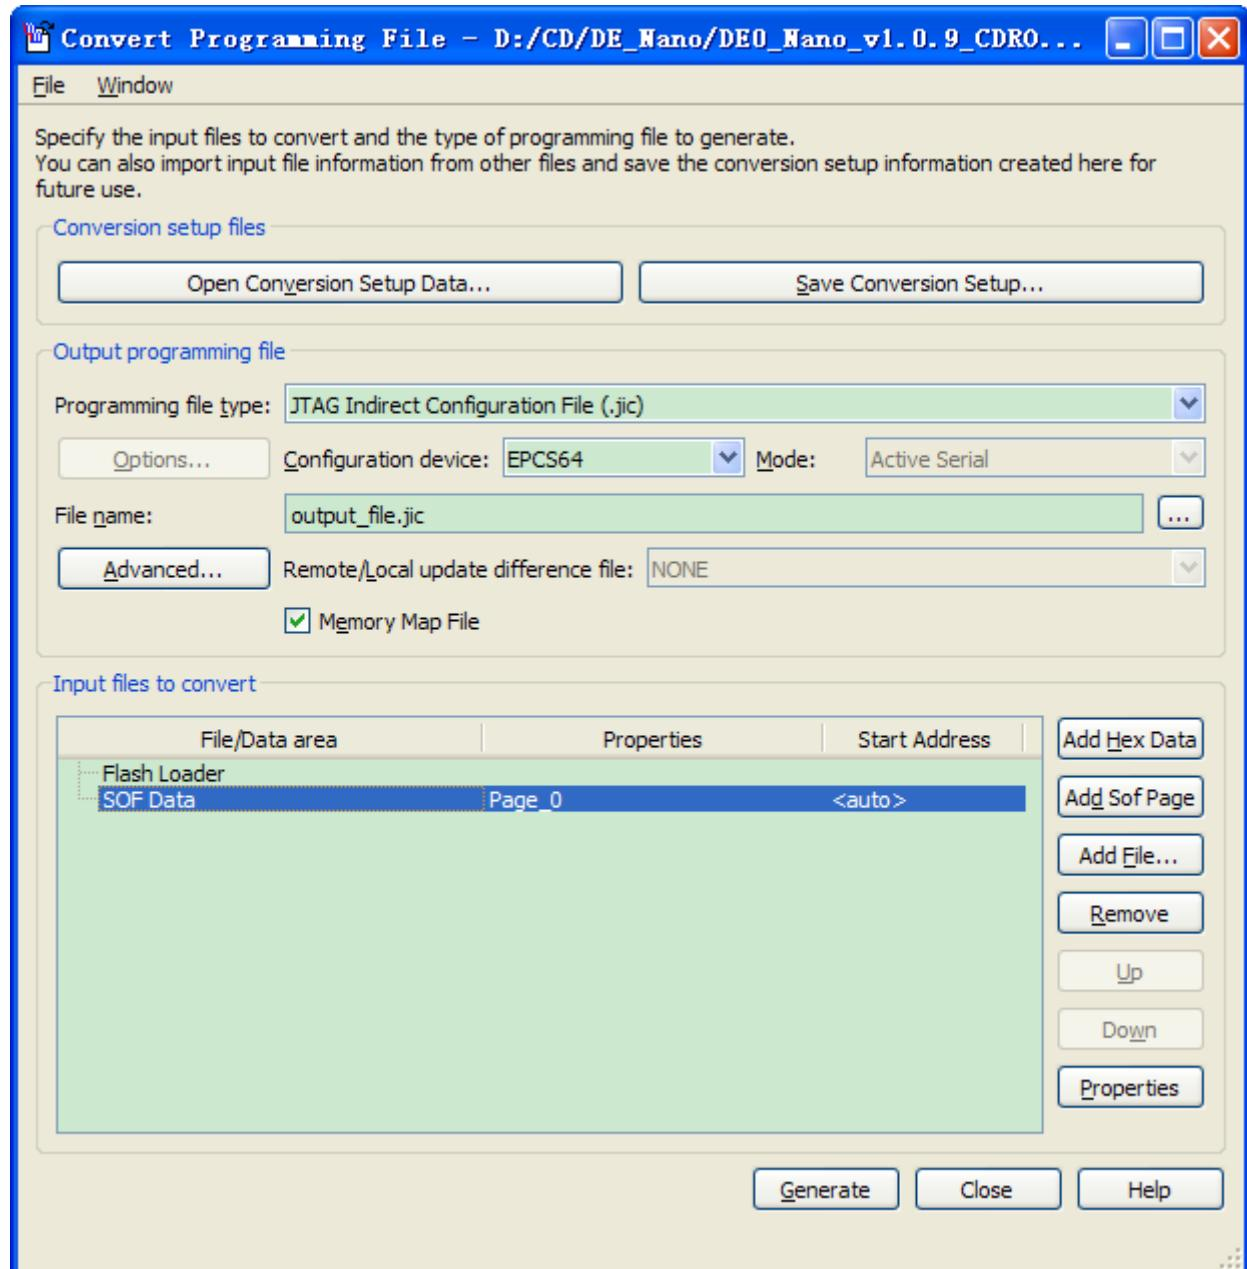

Figure 9-1 Convert Programming Files Dialog Box
5. Highlight the **SOF Data** row in the table, as shown in Figure 9-1.